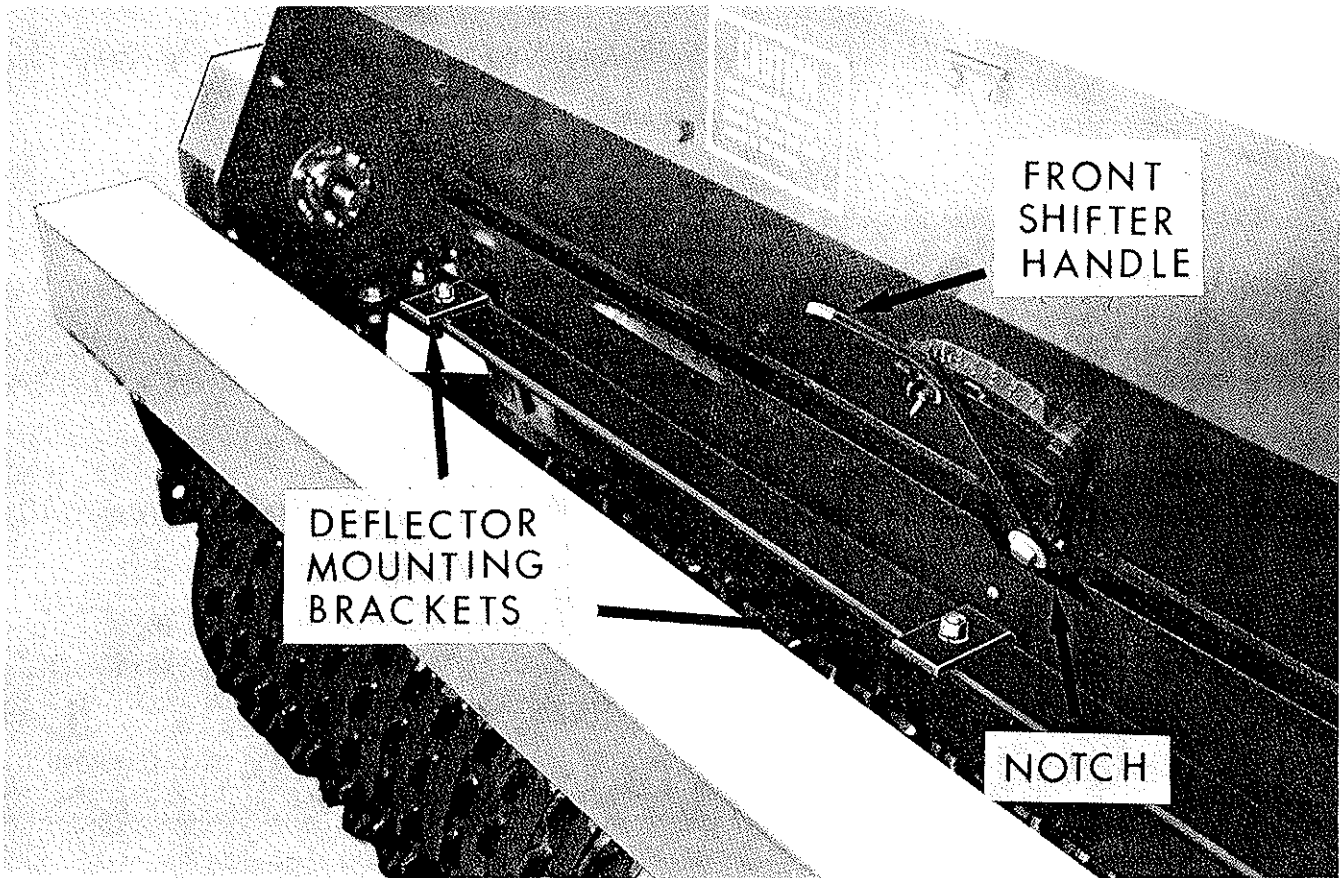

Figure 12
G. Shift Handle Installation See Figures 12 and 13.
Install one of the 3/4 ball bearings with flange stampings in the front hole at the box end plate. The bearing and flange are on the side towards the center of the machine, with the locking collar side of the bearing also towards the center of the machine. Bolt loosely with 5/16 x 3/4 bolts. See figure 12.
I. Installing the Deflectors See figures 12 and 18